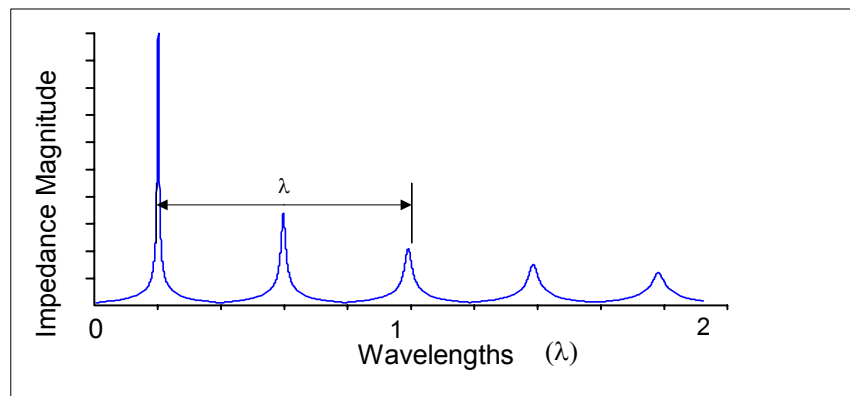

Figure 3 Input impedance of shorted low loss coaxial cable
1. Simulate a $1m$ coaxial cable RG-58 based on distributed elements model of transmission lines(see Fig.3 theory part), operating frequency $DC - 1GHz$. (Each element should represent a length of $1/50$ of the wave length).
- Simulate S_{11} and S_{21} of one distributed element dz using figure 3 and the calculated value of L,R,C,G. (Verify that the input and output impedance is 50Ω).